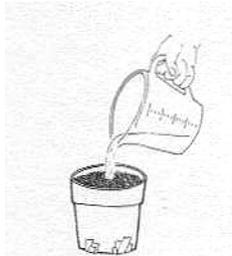

Figure 4.
3) Using the measuring cup, wet the medium (Figure 4). Keep track of the number of cups of water it takes to thoroughly saturate the medium. When a thin film of free water appears at the soil line - that is, when the medium is water-saturated - stop!